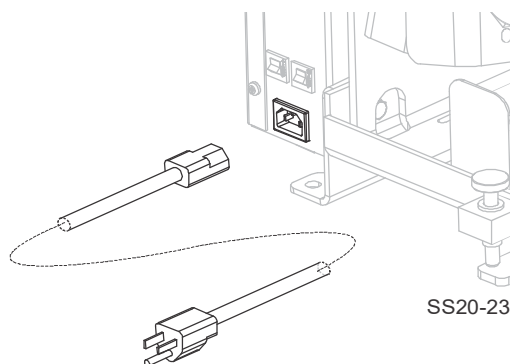

FIG. 2-11
2. Plug the other end into a standard grounded outlet. See FIG. 2-11